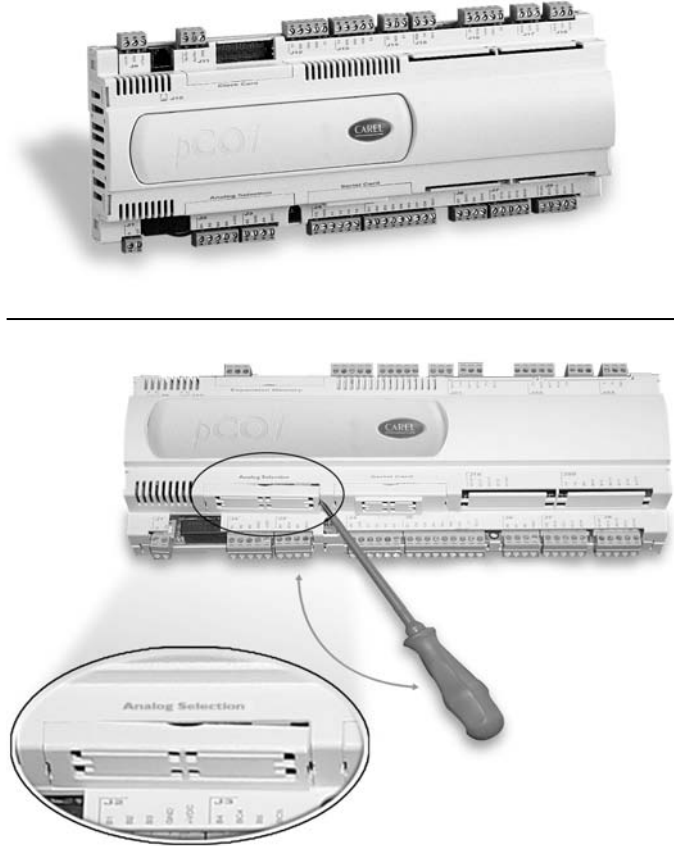

Fig. 1
1. Con un cacciavite, togliere lo sportellino "Analog Selection" del controllore elettronico (Fig. 1);
With reference to Figs. 1 to 4, the optional card is connected the pCO' according to the following procedure:
1. Using a screwdriver, remove the "Analog Selection" cover on the electronic controller (Fig. 1);